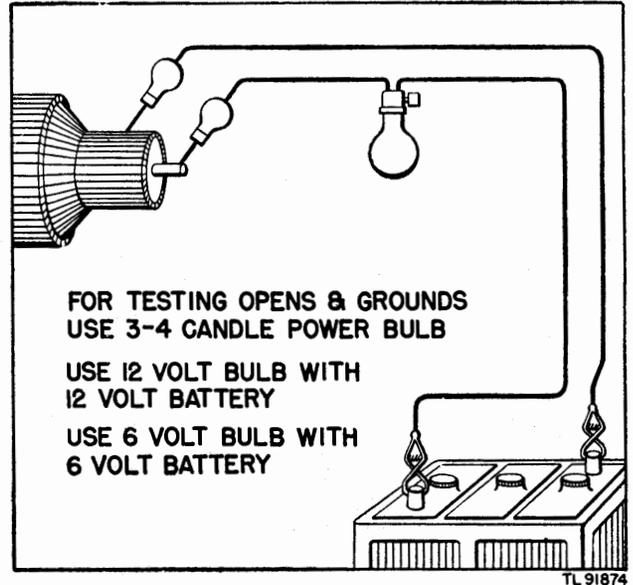

Figure 35. Checking commutator.
a. **EQUIPMENT FOR TESTING GENERATORS.** A simple test equipment for testing for open circuits, grounds, and short circuits may be improvised by the use of a storage battery, two test leads with prods, and a lamp socket and lamp inserted in series with one of the test leads. Figure 35 illustrates this equipment being used in checking a commutator. This test